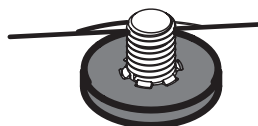

Figure 42
- Carefully place the flat washer on the spindle shaft. Be sure that the splines at the base of the spindle shaft threads line up with the washer splines. See Figure 42.